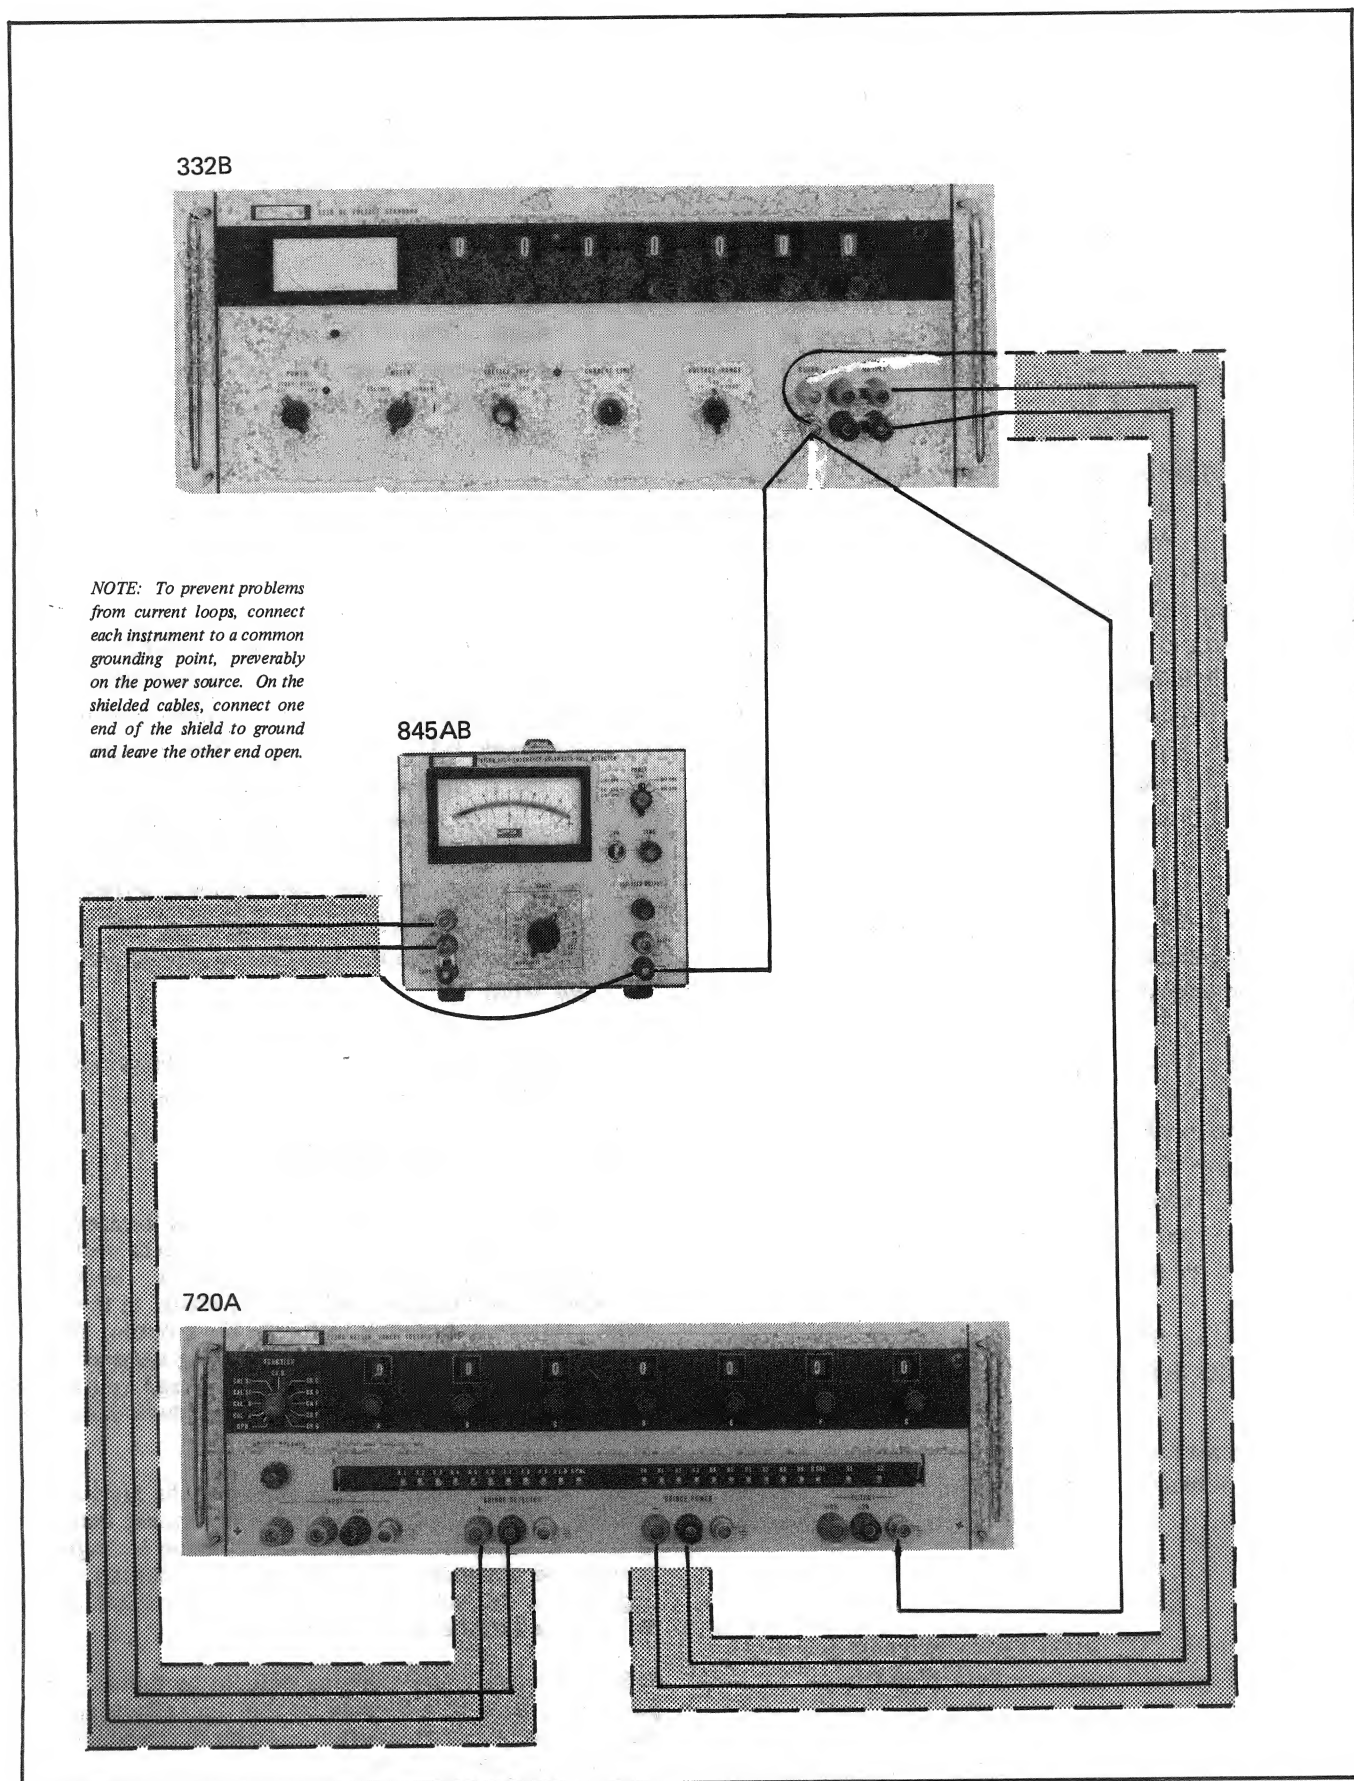

Figure 4-14. EQUIPMENT CONNECTIONS FOR SELF CALIBRATION.
*Insure the system has the correct connections and ground as shown in Figure 4-14.*